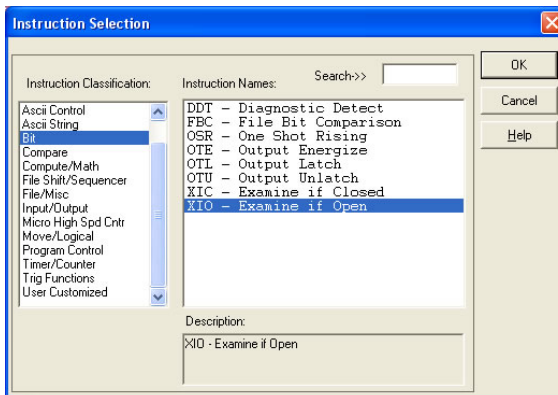

Figure 111: XIO Instruction Selection
- b) Select the "XIO" instruction from the "Bit" classification, then click OK. Refer to Figure 111.